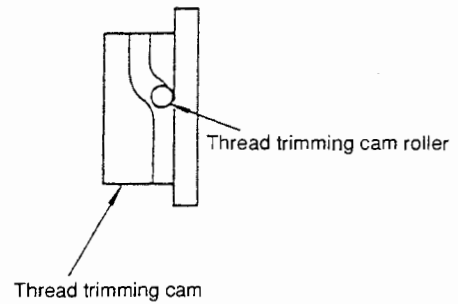

Fig. 5-17-4
<ol style="list-style-type: none"> <li>1) Loosen setscrew ①.</li> <li>2) Press the cam follower in the direction of the arrow ( → ), and turn the handwheel by hand in the reverse direction.</li> <li>3) Adjust so that, when the thread trimming cam roller reaches the curve of the thread trimming cam groove (the cam follower starts to move at this point), clearance A between the tension release notch and the end of the tension release shaft arm becomes 0 mm. After adjustment, tighten setscrew ①. (Fig. 5-17-4)</li> </ol>	<ul style="list-style-type: none"> <li>• The length of thread which remains on the needle after thread trimming would be too short or inconsistent.</li> </ul>